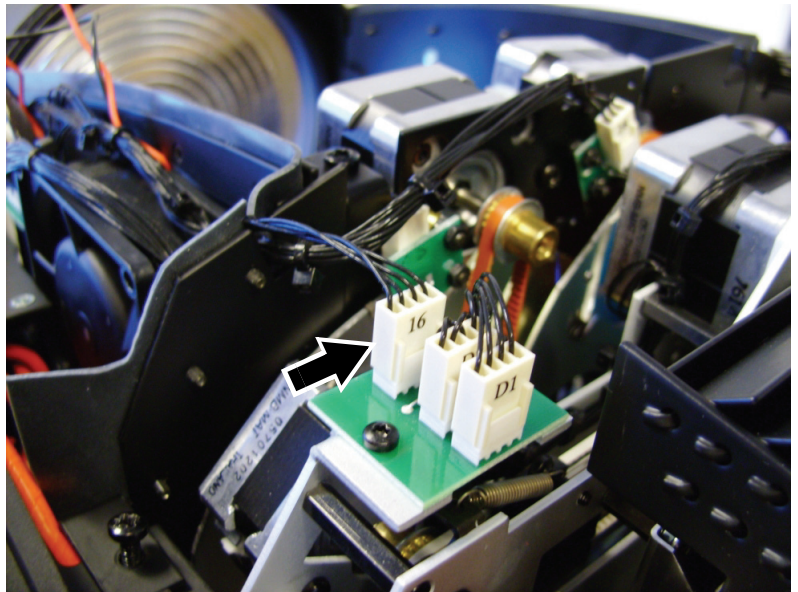

Figure 72
79. See Figure 72. Plug in connector 16 (arrowed) on the top of the CMY module on the left-hand side of the head.